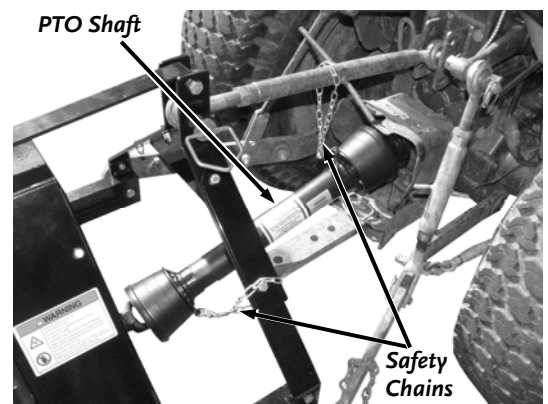

Figure 23
6. Secure the PTO Shaft Safety Chains to stationary parts of the Chipper Frame and Tractor to stop the Guard from turning (**Figure 23**).